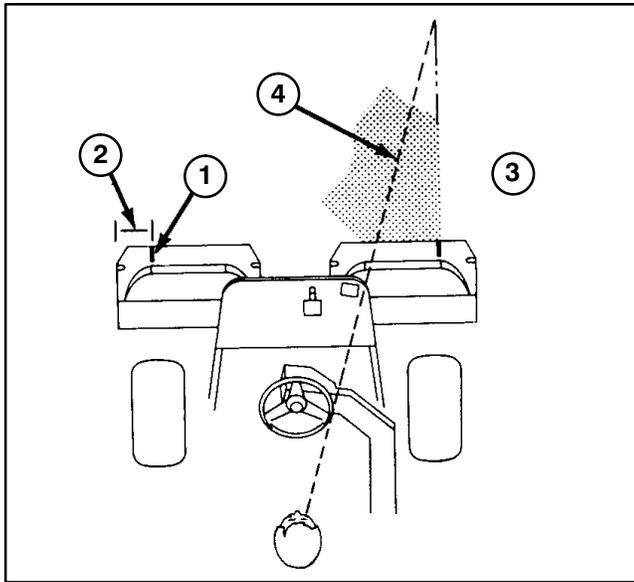

Figure 26
2. Either place a strip of white tape or paint a line onto each basket paralleling the outer edge of each basket (Fig. 26)